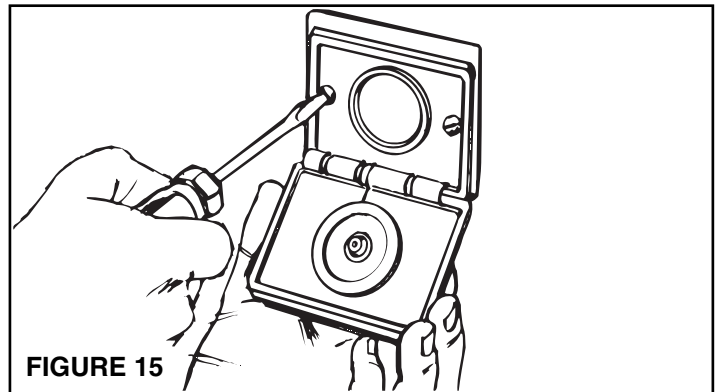

FIGURE 15
6. Refer to Figure 15. Place inlet into mounting bracket and secure.